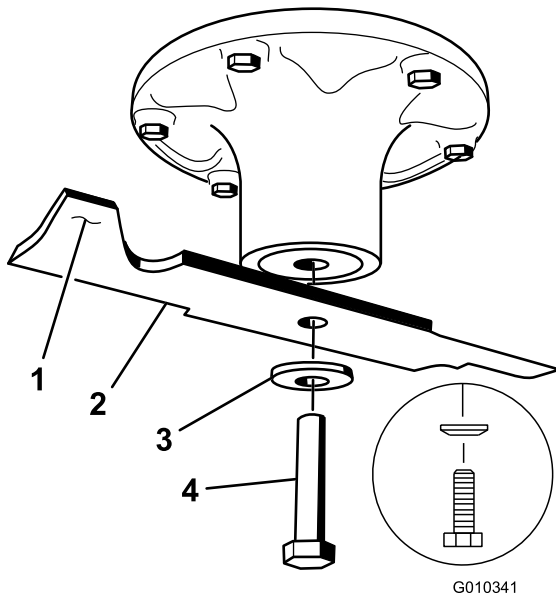

Figure 58
2. Remove the blade bolt, curved washer, and blade from the spindle shaft (Figure 58).
1. Install the blade onto the spindle shaft (Figure 58).
2. Install the curved washer (cupped side toward the blade) and the blade bolt (Figure 58).